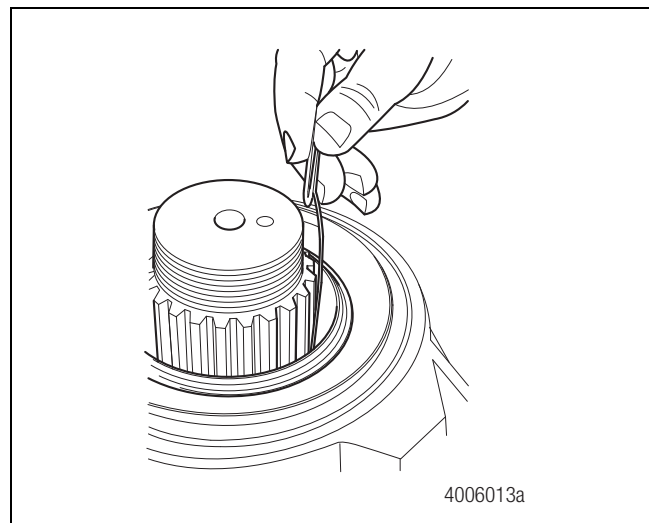

Figure 7.8
2. Verify that the seal spring has remained in the correct position. Figure 7.8.